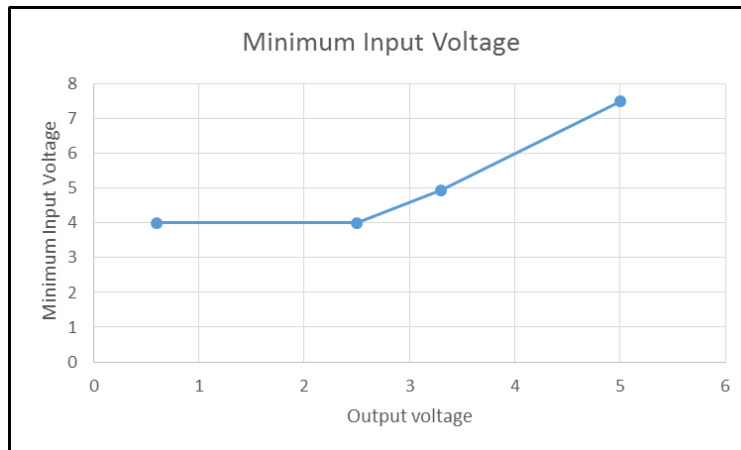

Fig. 15 Minimum Input Voltage
**Note 1:** There must be enough margin between the input and output voltage (refer to Fig. 15 on page 11)
To guarantee normal operation and regulation, there must be sufficient input-output voltage differential. Fig. 15 indicates the minimum input voltage required.